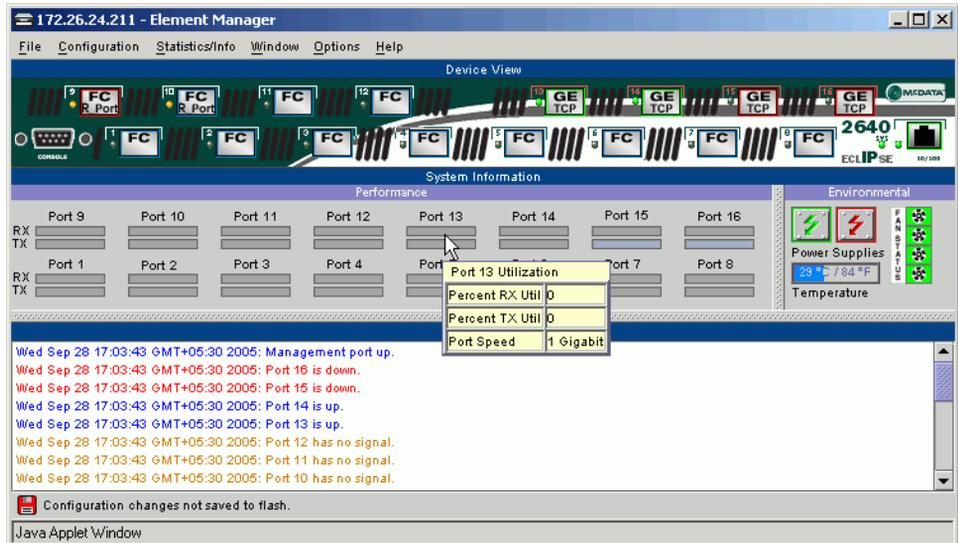

Figure 6-7 Performance Bar Tool Tip
Performance The bars below each port number indicate the average percentage of port bandwidth used on the previous poll cycle. The top bar represents packets received (RX); the bottom bar represents packets transmitted (TX). To view the performance bar tooltip, just position your pointer over the bar and pause (Figure 6-7).